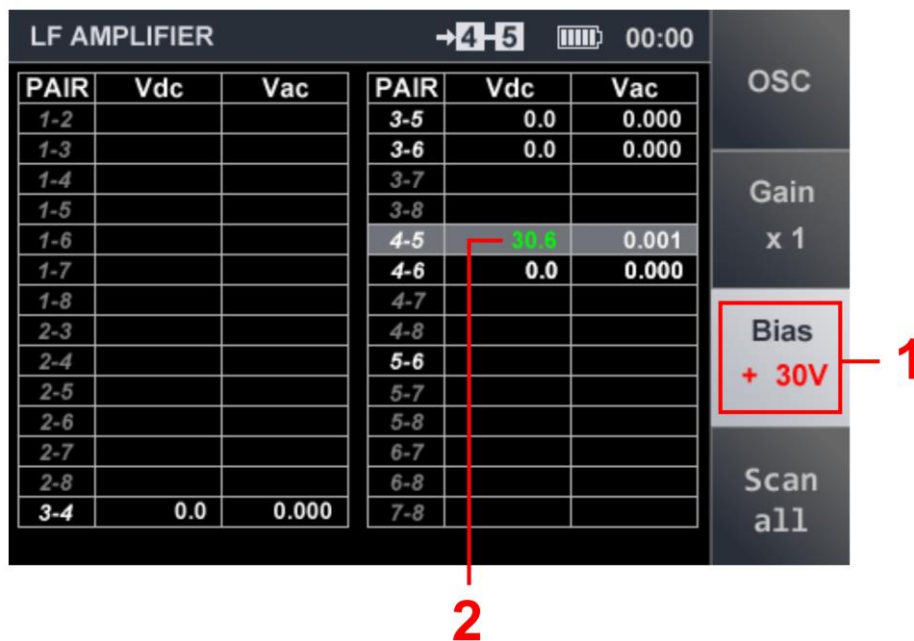

Fig.44
2. Using the keys select the bias voltage (-30 V or +30 V) which will be displayed on the screen (fig.44, 1 and 2). The bias voltage value will be marked green, and voltage in the circuit will be marked white.